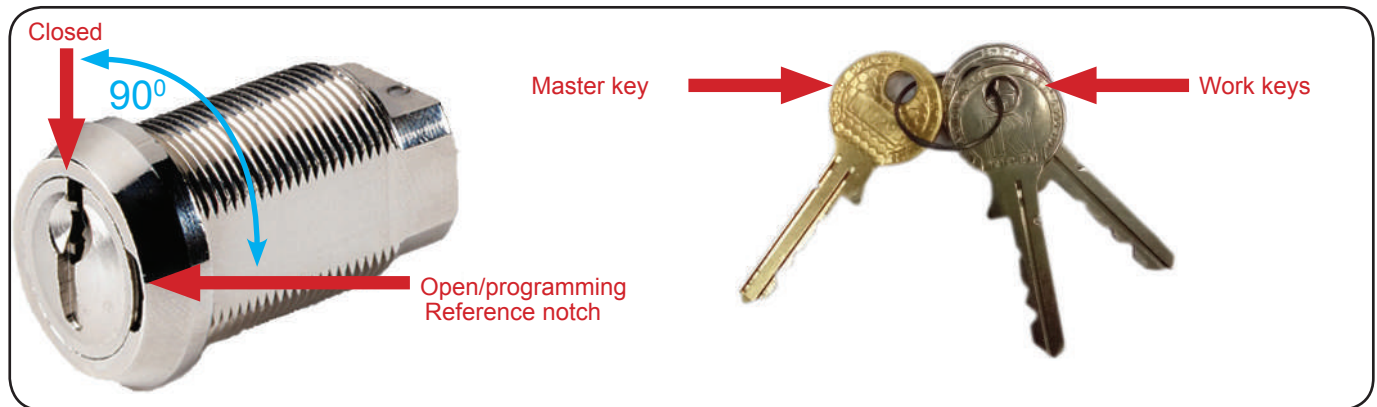

Figure 4.6
The lock is supplied together with three keys (fig. 4.6):
- Working position (“locked” position - fig. 4.6);
- Programming position (“open” position - fig. 4.6).
The vending machine is supplied with a ready-programmed lock. To open/close the vending machine door insert the SILVERY work key (sfig. 4.6) and turn it in the lock by 90° in the required position (fig. 4.6).
- Insert the master key («close» position - fig. 4.6), by which the lock was the last time programmed or the one that was supplied with the lock (for initial programming), into the lock. Secure the master key in the lock for at least 1 second. Then turn the key by 90° in the direction of the reference notch (fig. 4.6).
- Then turn the master key by 90° to the opposite direction («closed» position - fig. 4.6).